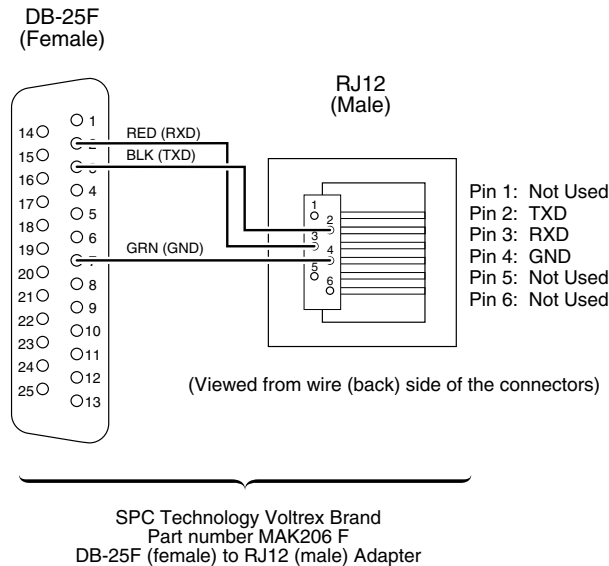

Figure 3-3. Wiring the RJ12/DB25 Adapter (1 of 2)
- 2 Adapter kits like the Voltrex MAK206F usually include a pre-wired RJ12 modular receptacle, a DB25F connector, and the adapter body, or wiring shroud. Wire the RJ12 receptacle to the DB25F connector according to the diagrams in Figure 3-3, and then assemble the adapter according to the instructions included in the kit.